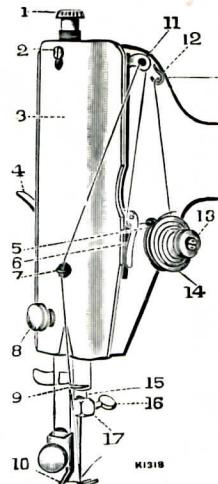
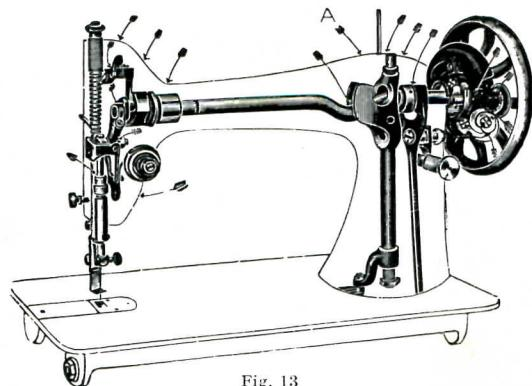

Fig. 3
Fig. 13
### To Thread the Needle (See Fig. 3).
### To Set the Needle (See Fig. 3).
Loosen the balance wheel, and place a reel of thread on the spool pin. Pass the end of the thread through the wire guide (12, Fig. 3), then into the lower eyelet (5) of the thread guide from below, and into the notch (2) at its top. Now thread the bobbin by passing the thread through the hole in its left disc from the inside, and with the left hand press it on to the bobbin winder spindle (1) and hold. Then, with the right hand, turn the small pulley (6) until the hole in the right disc of the bobbin is engaged by the pin in the spindle shoulder. Press the pulley against the ledge of the balance
Raise the take-up lever (11, Fig. 3) to its highest point, by turning the balance wheel towards you, and lift the presser foot; then move the material back and to the left, and sever the threads by passing them over the thread cutter above the presser foot. Leave the ends of the threads a few inches long under the presser foot.
For ordinary family sewing it is seldom necessary to change the pressure on the material. If sewing fine silk or flimsy material, lighten the pressure by giving the thumb screw (1, Fig. 3) two or three turns upwards. If it be found necessary to increase the pressure, give the thumb screw a few turns downwards.
All moving parts in contact must be covered with a film of oil **and not allowed to become dry**. Oil should always be applied at the points indicated by arrows in Figs. 13 and 14, a drop of oil being sufficient at any place. To oil the needle bar mechanism, remove the face plate (3, Fig. 3) by taking out the thumb screw (8, Fig. 3); then loosen the small screw (2, Fig. 3) and slip the plate up and over the latter. **It is most important that oil should be applied at the point marked "A" (Fig. 13) when the take-up lever (11, Fig. 3) is at its lowest point.** When oiling, insert the oil can spout well into the oil holes. Apply a drop of oil to the small piece of felt lubricating the oscillating hook and to the rollers at the right of the hook shaft.
The thread take-up spring (5, Fig. 3) being broken.
**Stitches Looping.**—This is regulated by the tensions (see page 11). See that both the bobbin case and the needle are properly threaded, that the thread used is of good quality and the correct size for the needle (see table on inside of back cover). See that the thread take-up spring (5, Fig. 3) is not broken.